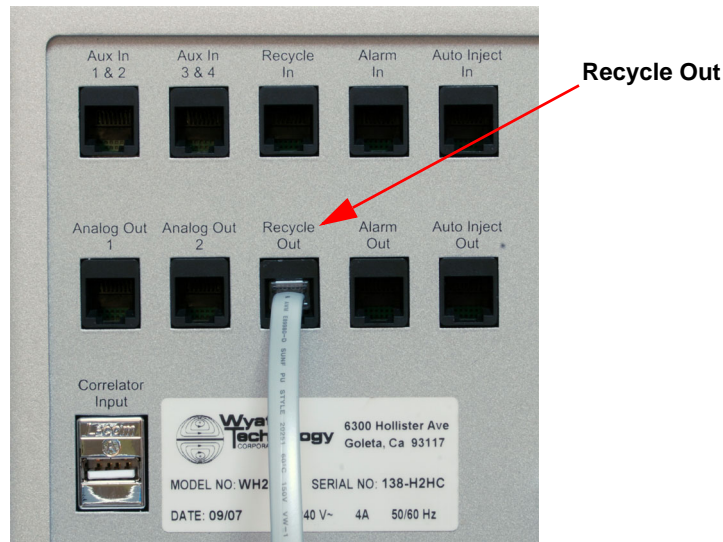

Figure 2-4: Wyatt instrument back panel
3. Using the provided RJ12 6P6C cable, connect the connector on the back of the Orbit Recycle System to the Recycle Out connector on the back of the Wyatt instrument, for example, HELEOS, TREOS, rEX, or ViscoStar. See Figure 2-4.